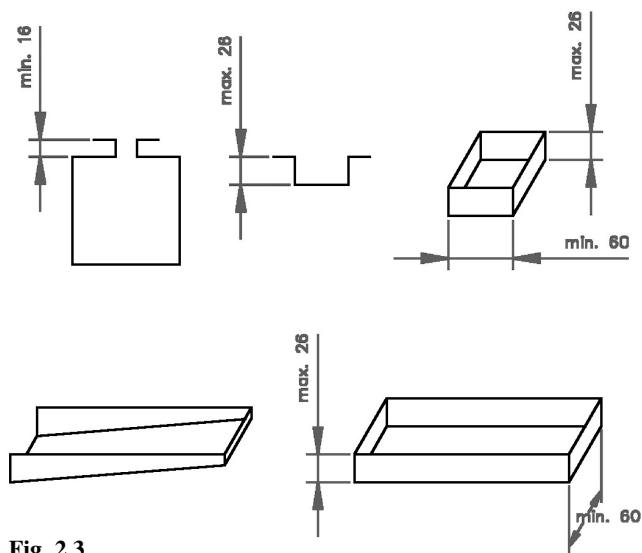

Fig. 2.3
It might be necessary to dismount one or more of the segments (3) in the upper beam in order to make the best possible use of the many possibilities LF 2-3 have.(see fig. 2.3).